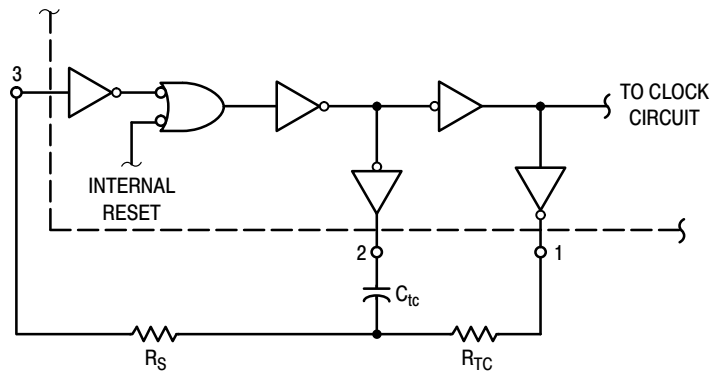

Figure 3. Oscillator Circuit Using RC Configuration
4. When using the on chip oscillator the total supply current (in μAdc) becomes: $I_T = I_D + 2 C_{tc} V_{DD} f \times 10^{-3}$ where I_D is in μA, C_{tc} is in pF, V_{DD} in Volts DC, and f in kHz. (see Fig. 3) Dissipation during power-on with automatic reset enabled is typically 50 μA @ V_{DD} = 10 Vdc.
The RC oscillator as shown in Figure 3 will oscillate with a frequency determined by the external RC network i.e.,